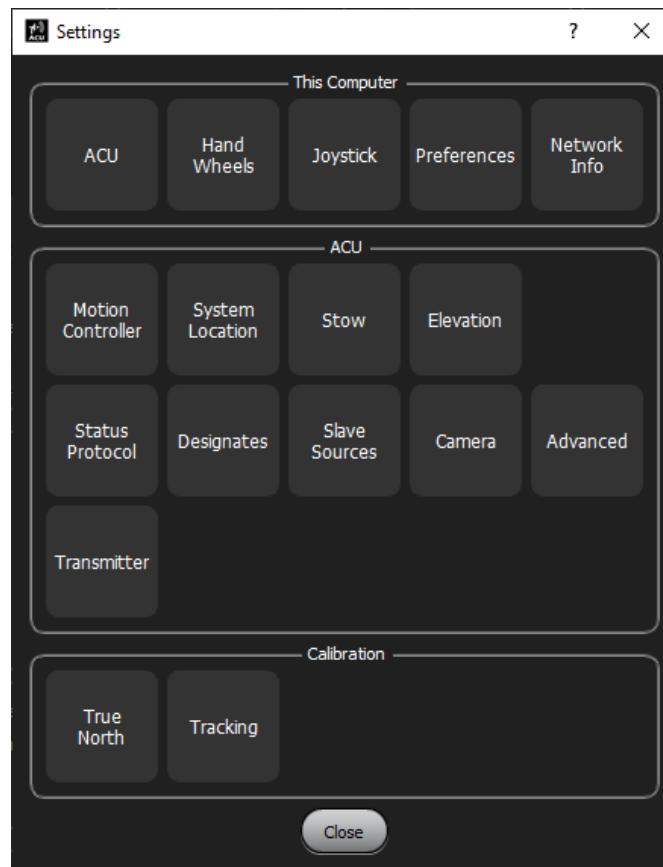
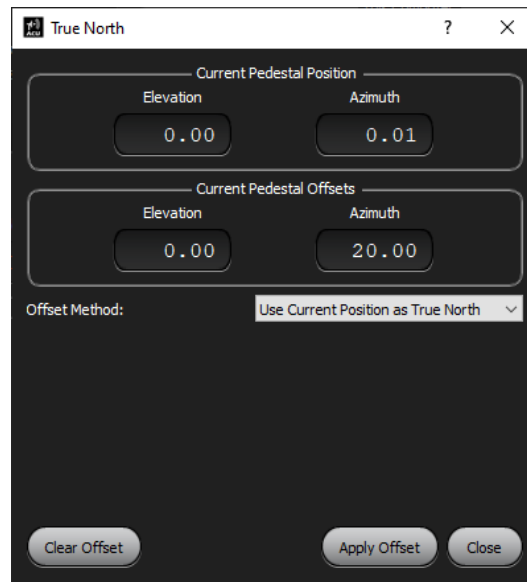

Figure 31: Settings Window
Figure 32: True North Window
1. Select the Settings – Calibration - True North button, as shown in Figure 31, to display the True North window, shown in Figure 32.